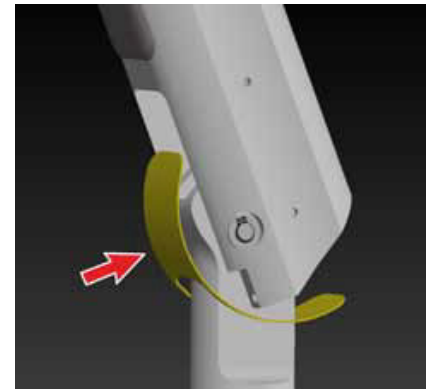

Figure 93
- Remove all the four scissor-arm end caps by opening the caps. Do not remove the rubber part shown in Figure 93 .